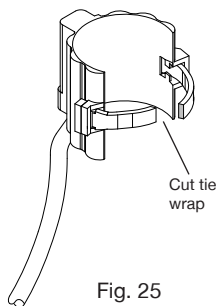

Fig. 25
- Remove the existing reed switch by cutting the securing tie wrap and pulling away from the body Fig. 25.